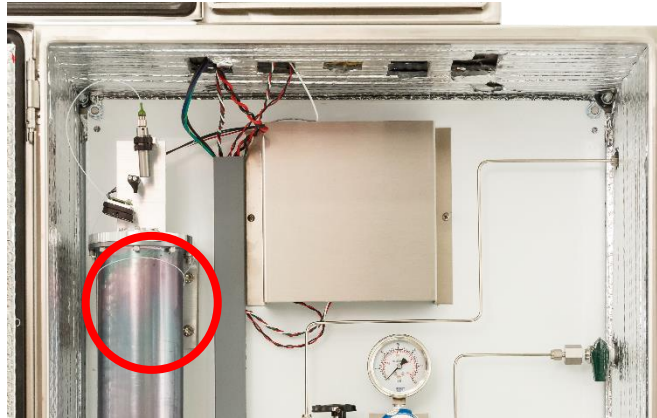

Figure 65: Location of Bolts Securing Herriott Cell
14. Locate the screws securing the Herriott cell to the back of the enclosure. See Figure 65.